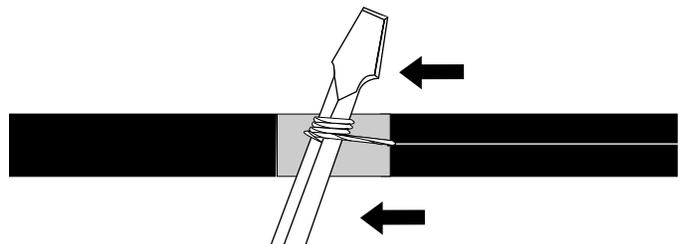

Figure 7
5.6 Pull the rip cord through the sheath to the tape wrap (Figure 7). Cut the rip cord flush at the tape wrap.